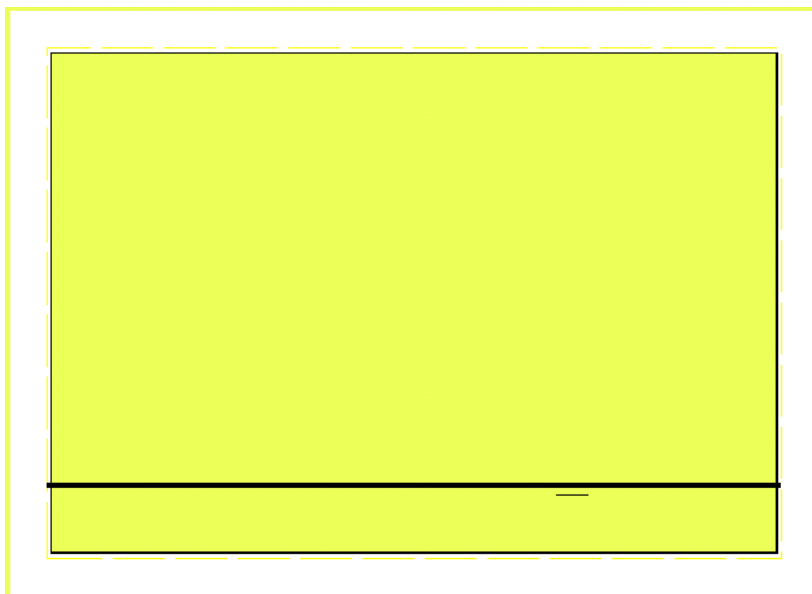

Figure 4-106
20. Select *Modify/Change*, select the line you just placed and change the “Line Width” to **4**. Don't worry if it appears thicker than the border rectangle. Go to *Draw/Text* and type in **#CONA#**. Select a font, set the size to **13.33ft (4m)** and click on “Left” justification. Place the text in right side area of the bottom section. See Figure 4-106. #CONA# is the key word that causes IRRICAD to insert the company name into the design. Many more dividing lines and text can be added to the template.